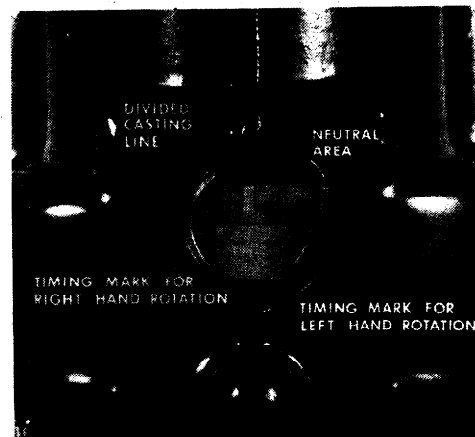

Figure 1. Alignment of Magnet Marks —
- b. Continue turning the engine slowly, still in the direction of normal rotation, until the proper timing mark on the rotating magnet is centered in the viewing hole. Figure 1 illustrates the timing mark centered for a right hand rotation magneto. A left hand rotation magneto would have the left hand mark centered. Eight cylinder magnetos will show an "R" line or an "L" line on the rotating magnet through the viewing hole.
- c. Turn engine slowly back toward number one cylinder firing position until proper timing mark on magnet is in center of the viewing hole (See figure 1).